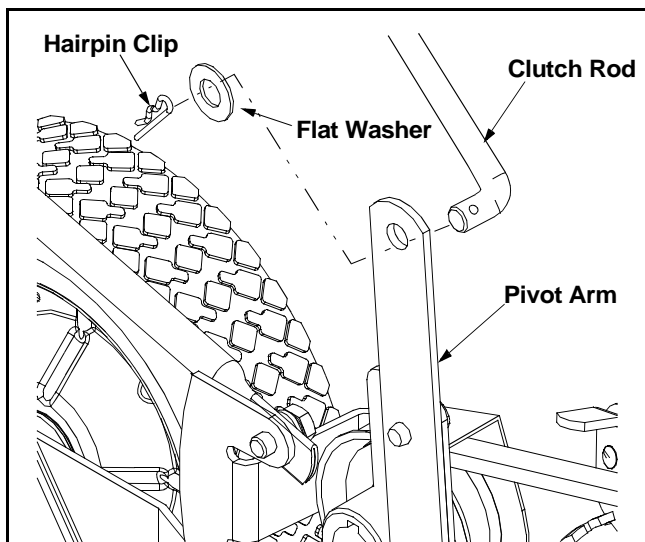

Figure 5
- Secure with the flat washer and hairpin clip removed earlier. See Figure 5.